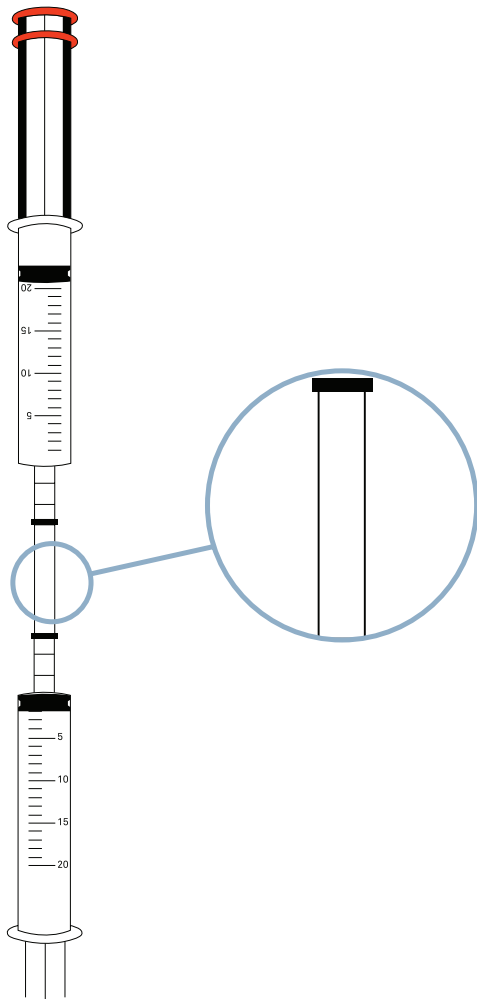

Figure 21 Connect the syringes
16. Connect the two syringes and the tensiometer shaft (Figure 21).